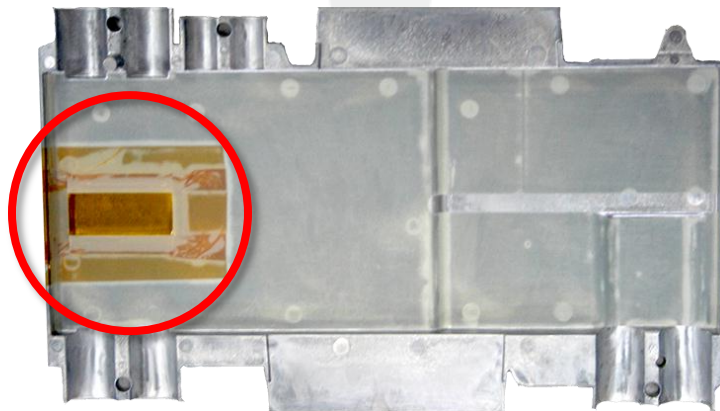

Figure 1
3. If orange polyimide tape is attached to the surface of the lid (Figure 1), no further work is necessary. Skip to step 7.